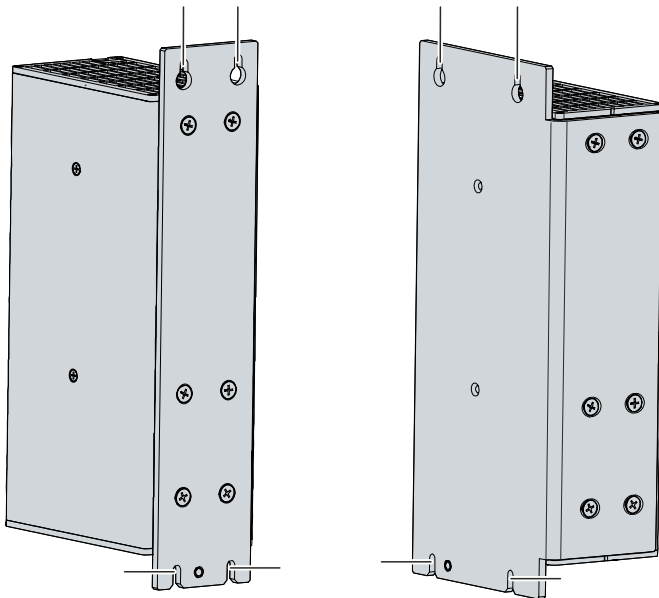

Fig. 12: Control cabinet installation
2. Hang the PC on the screws at the marked points of the mounting plate (see Fig. 12).